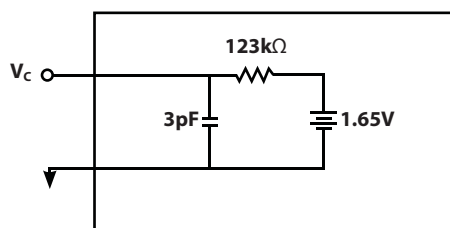

Figure 1. V_C Model - F1 or F2 Enabled
5. The V_C Model is described below (Fig 1).